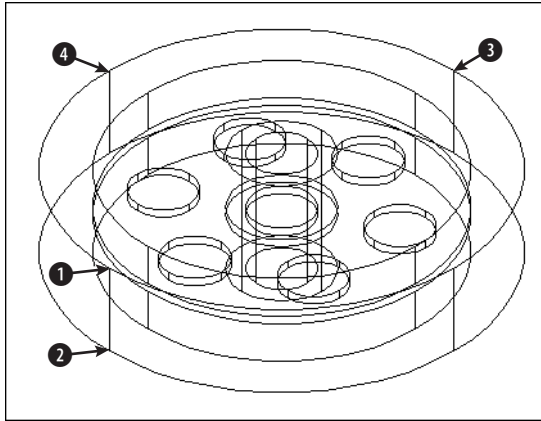
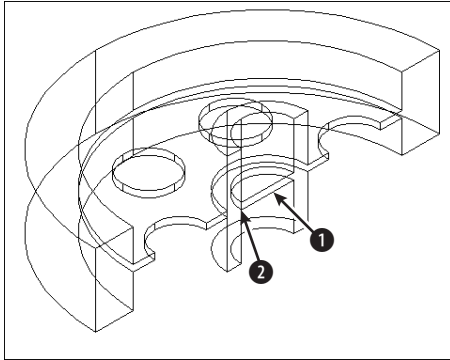

Figure 24-22: The 3D model for slicing
Figure 24-23: The solid after slicing and deleting one-half of it
1. If you have ab24-03.dwg open from the previous exercise, use it. Do a regen to remove the hidden view. If you don't have it open, open it from your AutoCAD Bible folder or from the Results folder of the *AutoCAD 2004 Bible* CD-ROM. Make sure that OSNAP is on. Set running object snaps for endpoint, midpoint, center, and quadrant. Make sure you have both the Solids and the Solids Editing toolbars open. The drawing is shown in Figure 24-22.
- <3points>: *Pick the quadrant at ① in Figure 24-22.*
- Specify second point on plane: *Pick the quadrant at ②.*
- Specify third point on plane: *Pick the quadrant at ③.*
- Specify a point on desired side of the plane or [keep Both sides]: *Pick the model at ④.*
4. As mentioned earlier, the slicing reveals an error — the disk cuts through the central tube, as shown in Figure 24-23. To fix the error now, choose **Zoom Realtime** from the Standard toolbar and zoom in so the model takes up the entire screen.
5. Start the **CIRCLE** command. At the Specify center point for circle or [3P/2P/Ttr (tan tan radius)]: **prompt**, pick the midpoint at ① in Figure 24-23. At the Specify radius of circle or [Diameter]: **prompt**, pick the endpoint at ②.
6. Choose **Extrude** from the Solids toolbar. Select the new circle. Set the height of extrusion to 16 and accept the default taper angle of zero (0).